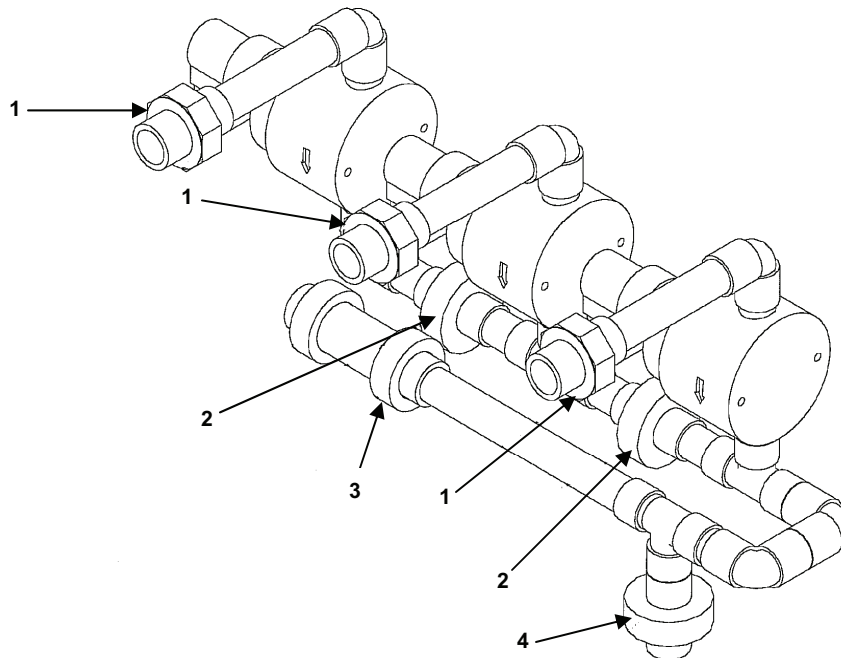
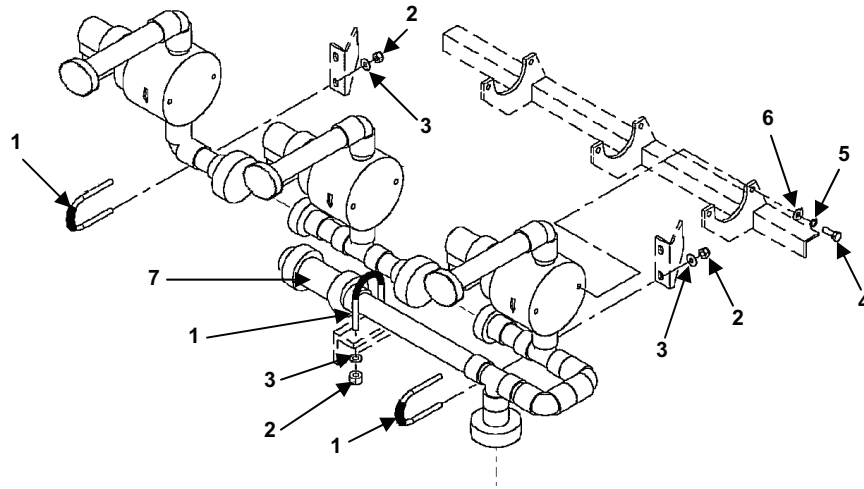

Figure 7. UF Reject Piping Unions.
Figure 8. UF Reject Piping Assembly.
UF reject piping can be removed as an assembly or as individual pieces by way of the unions. Unions 3 ea.(Figure 7, Item 1) connect the entire spool piece to the UF cartridges, (Figure 7, Item 2) inter connects the three (3) valve spool pieces and (Figure 7, Item 3,4) connects to the rest of the piping.
1. Remove nuts (Figure 8, Item 2), washers (Figure 8, Item 3) from U-bolts (Figure 8, Item 1). Remove U-bolts.
2. Remove screws (Figure 8, Item 4), lock washers (Figure 8, Item 5), and washers (Figure 8, Item 6) from valve supports.
4. Remove the unions as needed to remove the spool pieces. See Figure 7.
5. Remove check valve (Figure 8, Item 7) if needed.
1. Refer to Figure 7 and Figure 8 for this piping.
3. Install check valve (Figure 8, Item 7). Ensure arrow on body of the check valve is in line with the direction of the flow.
4. Tighten unions (Figure 7, Item 1, 2, 3 and 4) as required.
5. Install the U-bolt (Figure 8, Item 1) and fasten the lock nuts (Figure 8, Item 2) washers (Figure 8, Item 3) to the U-bolt (Figure 8, Item 1).
6. Fasten the solenoid valves with screws (Figure 8, Item 4), lock washers (Figure 8, Item 5) and washers (Figure 8, Item 6).